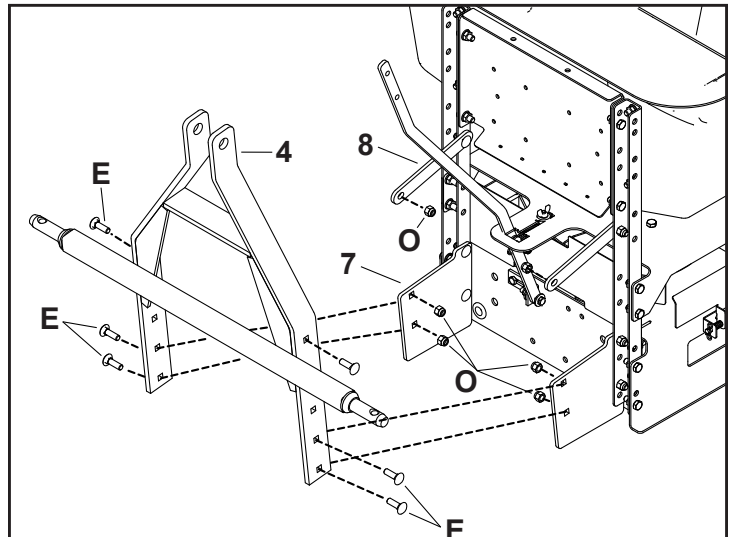

FIGURE 9
STEP 9: (SEE FIGURE 9)
- Place the 3 point main frame (4) over the outside of the lower 3 point brackets (7). The 3 point hitch braces (8) will go on the inside of the 3 point main frame (4). (Make sure the 3 point hitch tube is facing away from the spreader.)
- Install two 3/8" x 1-1/4" carriage bolts (E) on each side through the lower part of the 3 point main frame (4) and lower 3 point bracket (7).
- Secure with two 3/8" nylock nuts (O) on each side. Do not fully tighten hardware.
- Install a 3/8" x 1-1/4" carriage bolts (E) on each side through the upper part of the 3 point main frame (4) and the round hole on the 3 point hitch brace (8).
- Secure with a 3/8" nylock nuts (O) on each side. Tighten hardware.